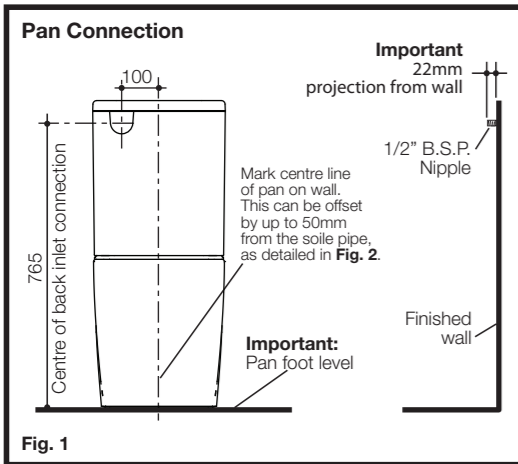
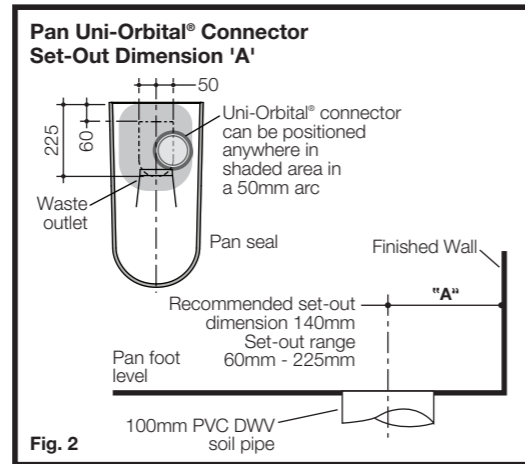
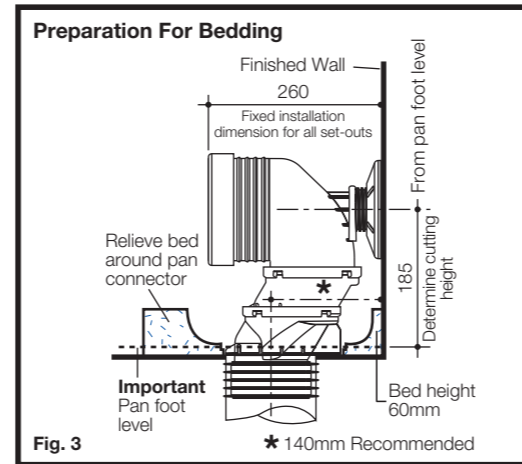
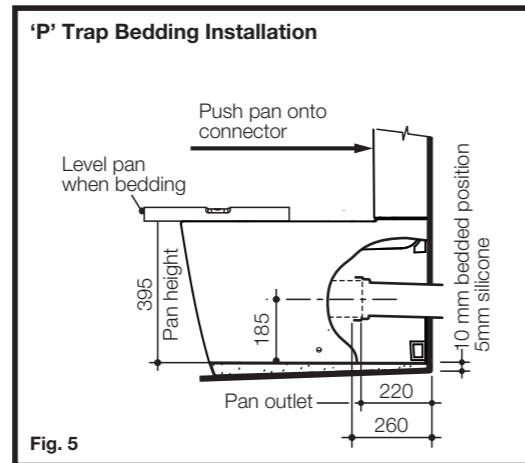

Fig. 1
Fig. 2
Fig. 3
Fig. 5
The Elvire Cleanflush pan is universal for both 'S' and 'P'-Trap installations as detailed. The recommended set-out for 'S'-Trap installations is 140mm from the finished wall with set-out flexibility for existing soil pipe positions ranging from 60mm to 225mm and 50mm sideways adjustment with the Uni-Orbital® connector supplied, as detailed in Fig. 2.
- 1- Mark centre line of the pan on finished wall, as detailed in Fig. 1. This is to be used as a guide when connecting the pan. The centre line can be offset by up to 50mm from the soil pipe, as detailed in Fig. 2.
- 2- Determine set-out "A" of existing pan connector, as detailed in Fig. 2. Set-out range 60mm - 225mm. Recommended set-out 140mm, as detailed in Fig. 3. For 'P' trap installation see Fig. 5.
- 4- Prepare bedding sand cement mixture 3:1 to depth of 60mm as detailed in Fig. 3. **Note:** Do not fill the foot of the pan with bedding mix or include lime or fast drying cement into the mix, these may cause cracking in the foot of the pan.